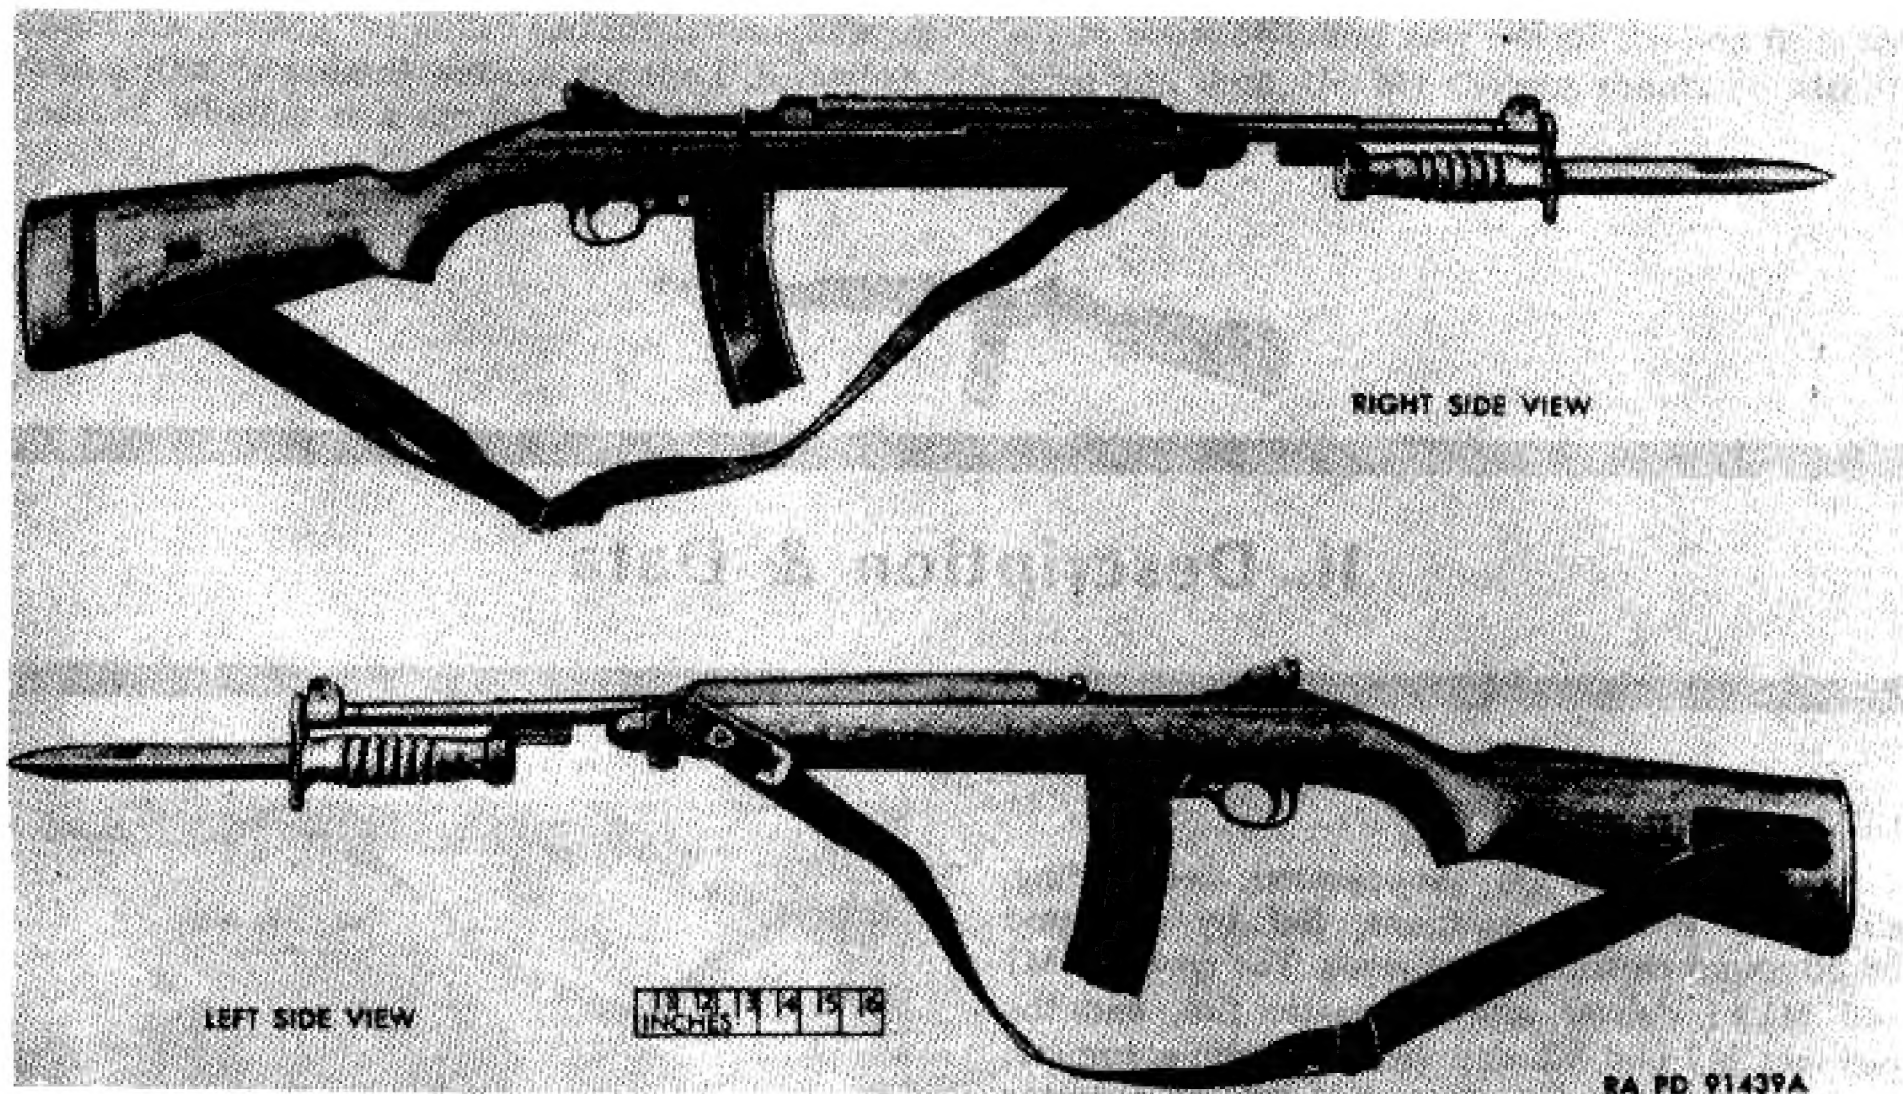

Figure 3. Cal. .30 carbine M2.
*c. Cal. .30 Carbines M2 and M3* (Figs. 3 and 3a). The carbine M2 is the same as the M1 except for differences in design of certain components and the addition of others (*d* below), which permit the M2 to deliver either semi-automatic or full automatic fire. The carbine M3 is the same as the M2 except that the rear sight is not included and the top of the receiver is designed to accommodate special sighting equipment (sniperscope) issued by the Corps of Engineers. Information on the sniperscope may be found in TM 5-9341.